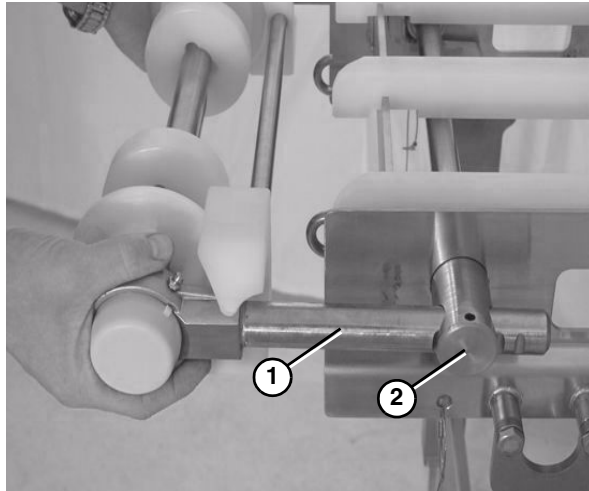

Figure 66
2. Slide the idler tail assembly (**Figure 66**, item 1) out of the take up blocks (**Figure 66**, item 2).